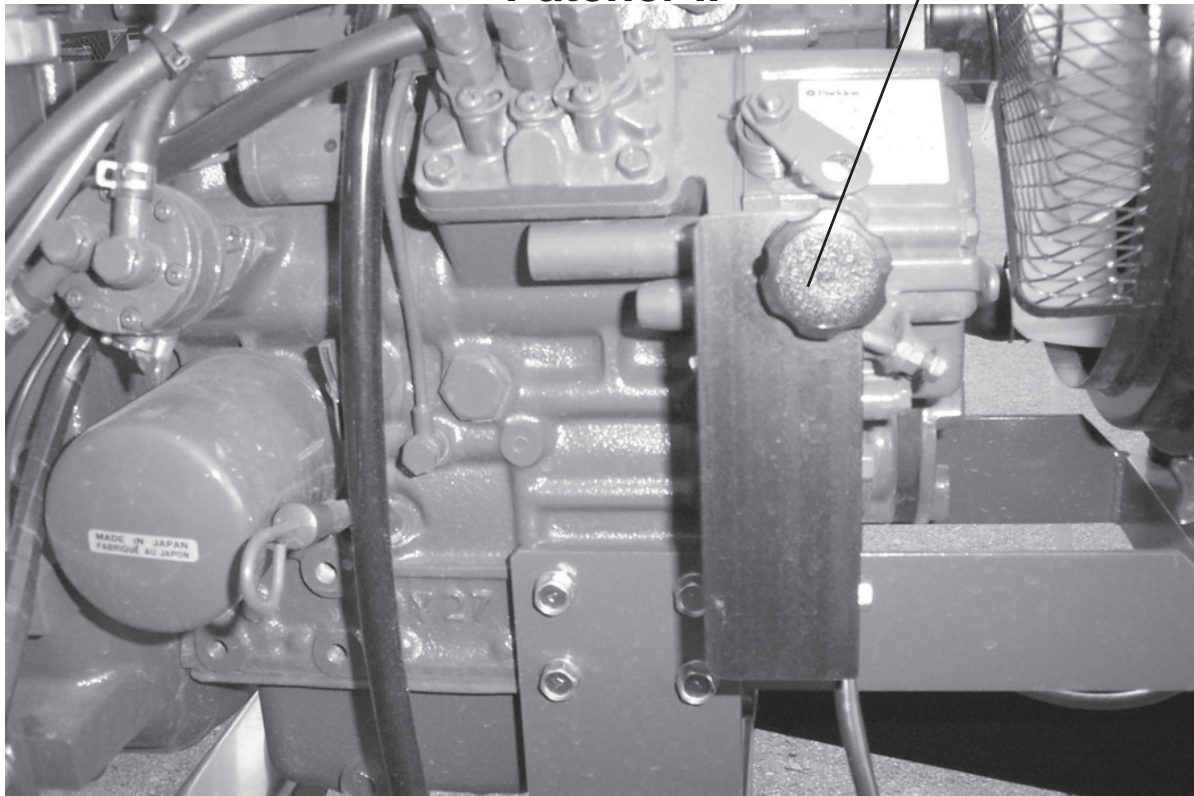

Fig. 5
3. Start the engine. To start the engine, insert the key into the control panel. Turn the key to the preheater first position. Let it warm up a few minutes, then start engine. Warning lights should turn “ON”. Turn the key to the second position. The engine should start. Release key when engine is running. Leave at idle for a few minutes. Move throttle lever to set the engine at desired speed (see Fig. 5). Make sure mixer control valve switch is in the neutral position.
3. Idle down the engine with the throttle lever and turn off key. (See Fig. 5)